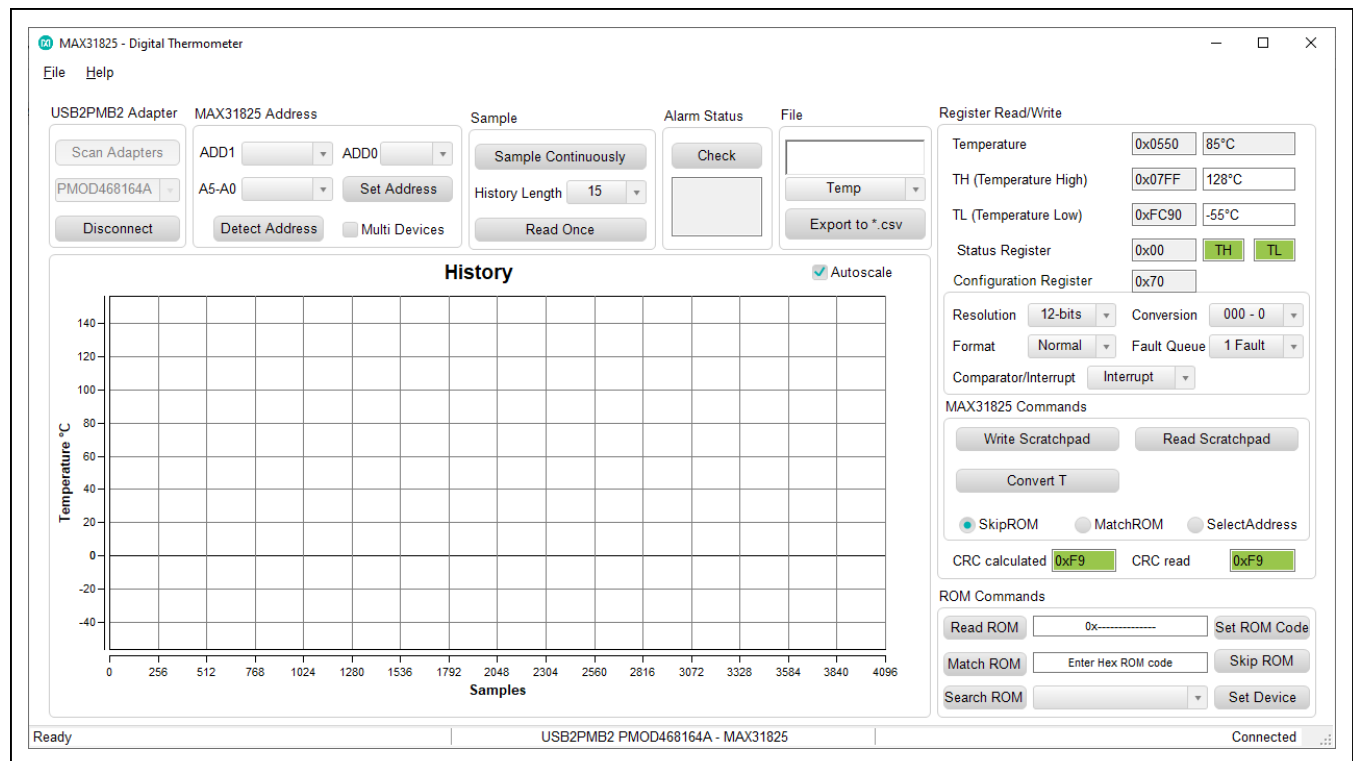

Figure 2. MAX31825 Main Window
- 5) Open the EV kit GUI, MAX31825EVKit.exe (Figure 2).